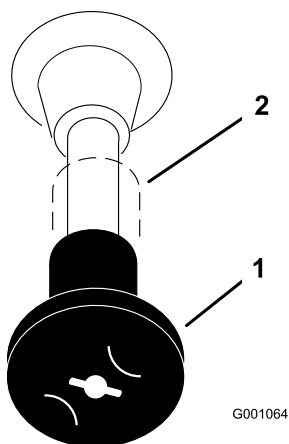

Figure 13
4. Move the choke control to the on position before starting a cold engine (Figure 13).
7. After the engine starts, move the choke to off (Figure 13). If the engine stalls or hesitates, move the choke back to on for a few seconds, then move the throttle lever to desired setting. Repeat this as required.